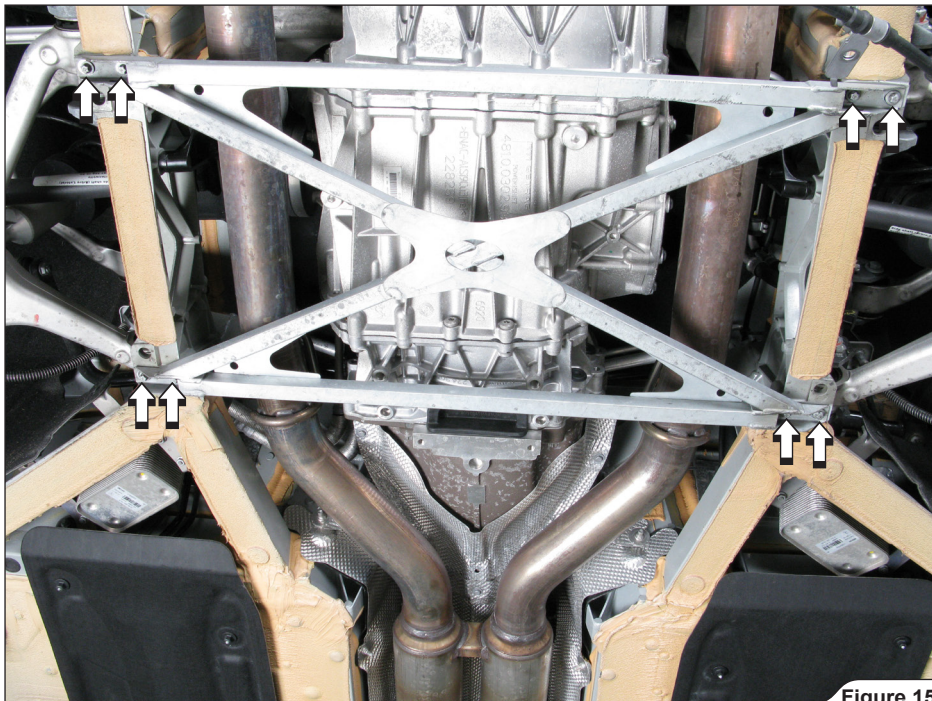

Figure 15
12. Unscrew the marked bolts and remove the chassis reinforcement off the vehicle (**Figure 15**).